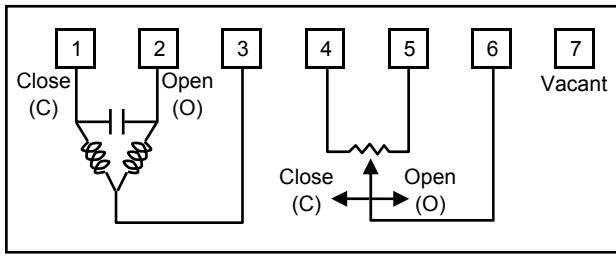

Figure 10. Terminals connection of Model VY511XJ00XX (Nominal 135 Ω feedback potentiometer type)
- 3) Correctly connect the wires to the terminals with M3.5 screw terminal lugs, referring to Figs 10 to 18.